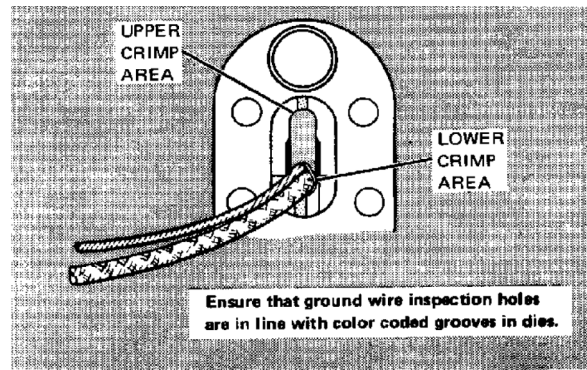

Figure 11
- b. Place ferrule with shielded wire and ground wire attached in lower crimp area of dies. Push ferrule all the way into tool. See Figure 11.
- a. Place ferrule, with shielded wire and ground wire attached, in lower crimp area of dies. Push ferrule all the way into tool. See Figure 11